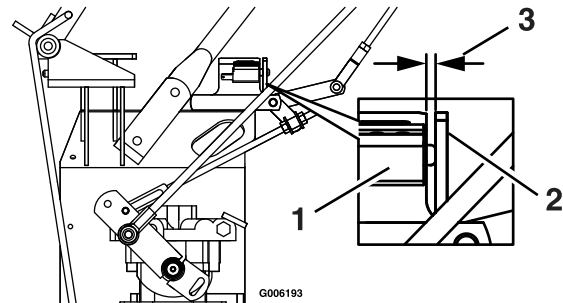

Figure 14
2. Move speed control lever (located on console) to the full forward position and check orientation of tabs on the ends of the speed control crank, see Figure 14. These tabs should be pointing straight down at the 6 o'clock position or slightly forward. Adjust threaded yoke at the bottom of speed
control linkage until tabs are positioned correctly. See Figure 14.
3. Pull speed control lever back to neutral. Check that the neutral safety switch actuating tab has depressed the plunger of the switch so that there is about 5/16 inch (7.9 mm) between the tab and the switch as shown in Figure 14. If necessary, move the switch fore and aft.